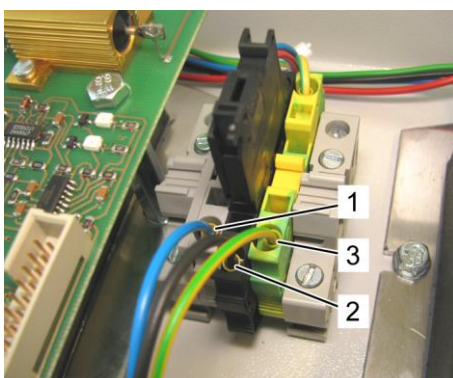

Fig. 84: Connection with 115/230 V AC
1. Connect the conductors of the power supply according to Fig. 84. For details refer to the respective terminal diagrams.